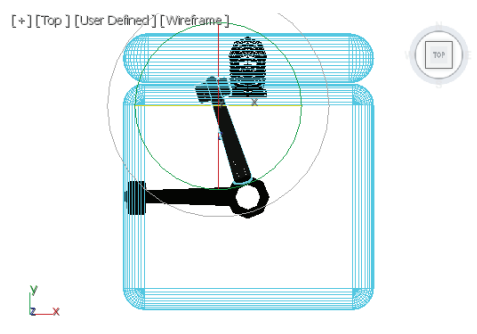
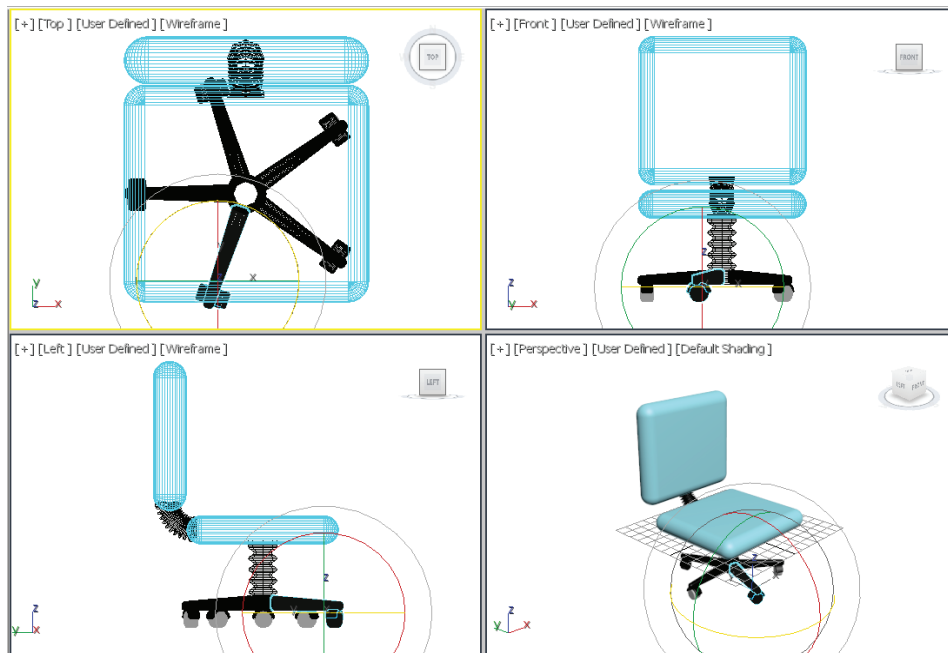

Figure 3-47 The *f_leg01* group rotated about -72 degrees with respect to the working pivot point
Figure 3-48 The *f_leg002*, *f_leg003*, *f_leg004*, and *f_leg005* in viewports
22. Move the cursor over the Z-axis that is blue in color; it gets highlighted in yellow color. Now, press and hold the SHIFT key as well as the left mouse button and drag the cursor until the value in the **Z** spinner in the coordinate display is around **-72**, refer to Figure 3-47. Release the left mouse button; the **Clone Options** dialog box is displayed. Make sure that the **Copy** radio button is selected. Set **4** in the **Number of Copies** spinner. Choose the **OK** button; *f_leg002*, *f_leg003*, *f_leg004*, and *f_leg005* are displayed in the viewports, as shown in Figure 3-48.